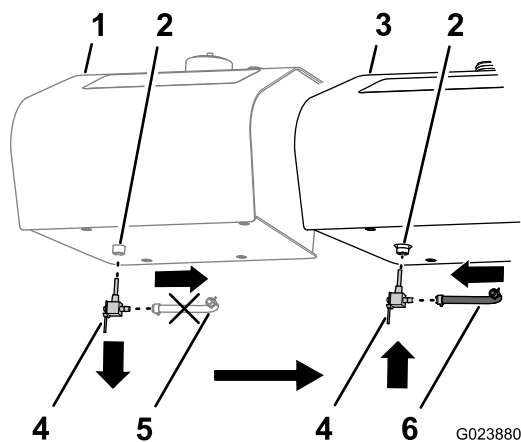
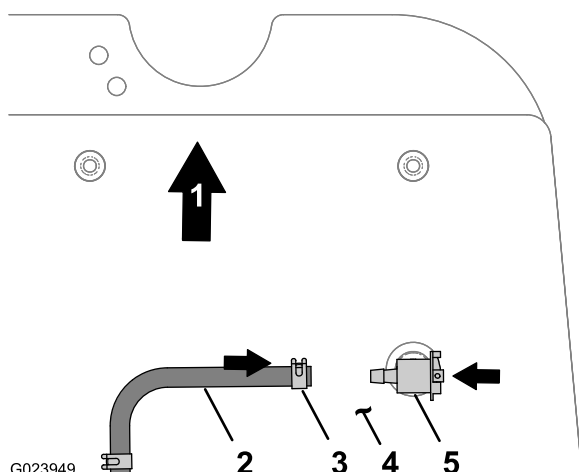

Figure 9
Figure 10
1. At the bottom of the original fuel tank, remove the fuel hose from the fitting of the shutoff valve (Figure 9).
- Remove the shutoff valve from the coupler in the bottom of the original tank (Figure 9).
- Insert the shutoff valve into the coupler of the fuel tank from the fuel-tank service kit, and thread the valve into the coupler (Figure 9).
- Tighten the shutoff valve and position the barbed fitting to point to the left as viewed from the bottom of the tank (Figure 10).
- Position a clamp from the fuel-tank service kit over each end of the fuel hose from the kit (Figure 9 and Figure 10).
- Install one end of the fuel hose over the barbed fitting of the shutoff valve in the tank (Figure 10).